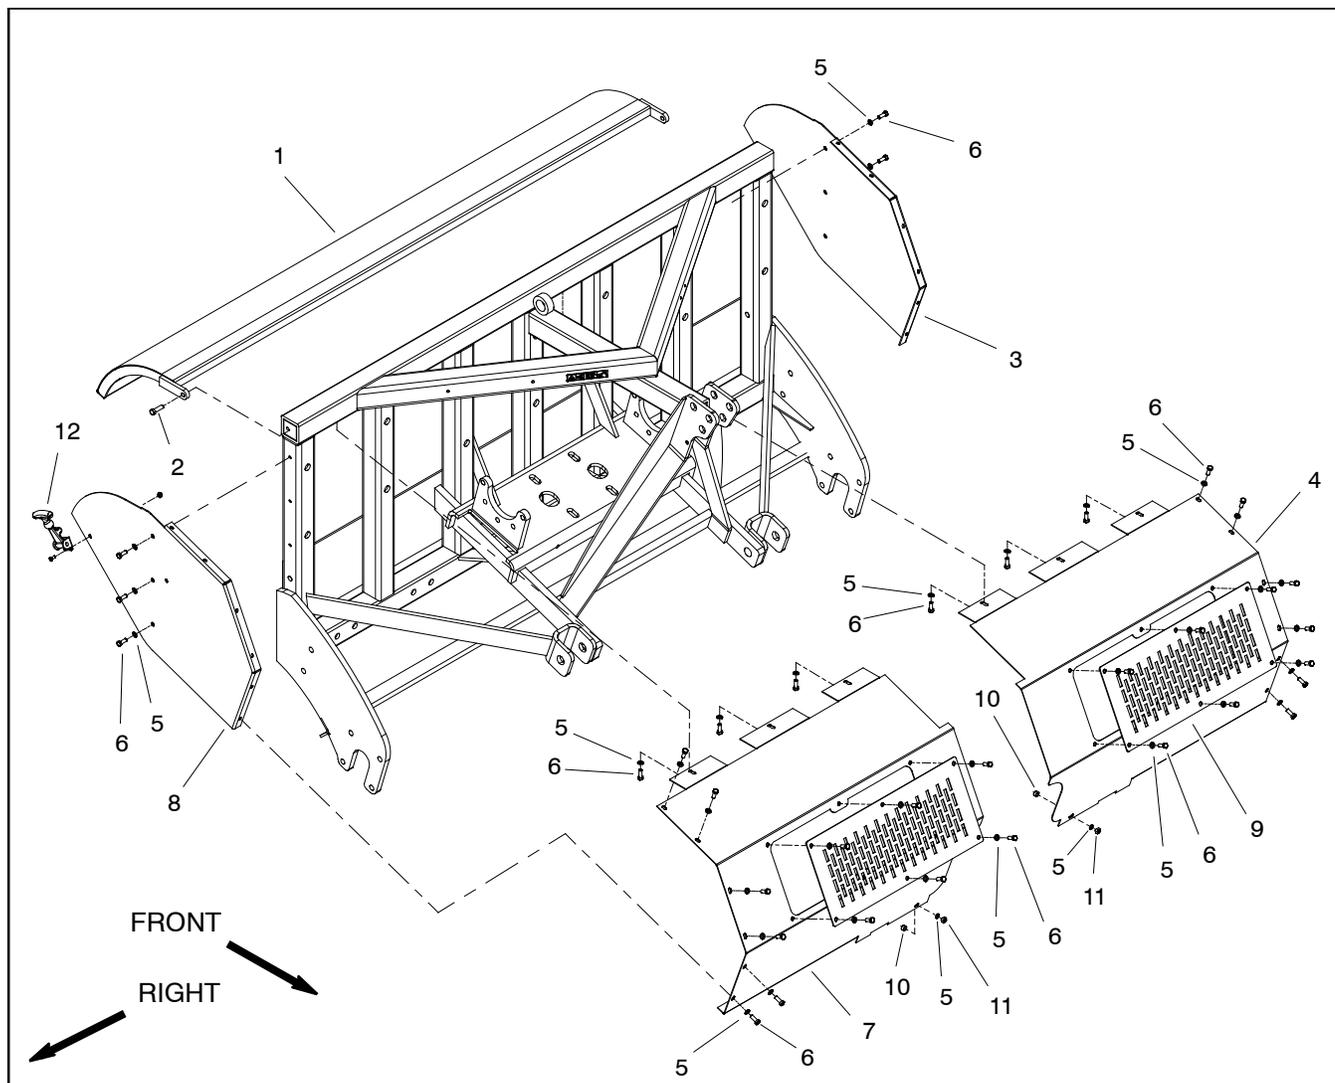

Figure 20
Removal (Fig. 20)
2. Remove rear hood and front screens using Figure 20 as a guide.
Installation (Fig. 20)
1. Install rear hood and front screens using Figure 20 as a guide.